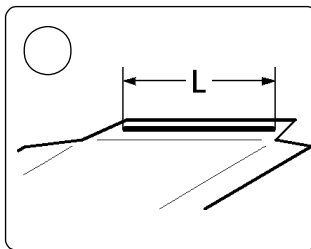

Figure 10-1. Glue-Pattern-Edit Icon Button
1. Press the glue-pattern-edit icon button (Figure 10-1). One of four glue-pattern-edit screens displays (Figures 10-2, 10-3, 10-4, and 10-5), depending on control mode (0, 1, 2, or 3).